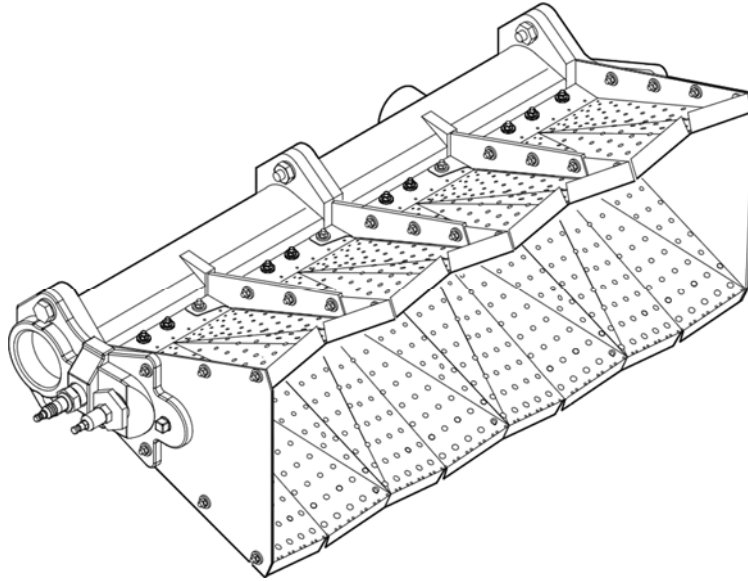

Figure 6-5
5. Adjust the pilot pressure until the pilot lights reliably (R10 & R15 only). Multiple tries may be necessary to bleed air from the gas line. If the gas pressure to the pilot is too high or too low, the pilot may not light properly. The pilot is adjusted at the factory. If pilot adjustment is necessary in the field, reduce the pilot gas pressure using the pilot regulator, and then gradually increase the pilot gas pressure until the pilot lights. Finally, increase the pilot pressure by 1.5 turns on the pilot regulator. The pilot gas pressure to the pilot should be approximately 3.5" WC. The pilot flame should be a bushy blue flame inside the first 1/4 of the air wings. See Figure 6-5.